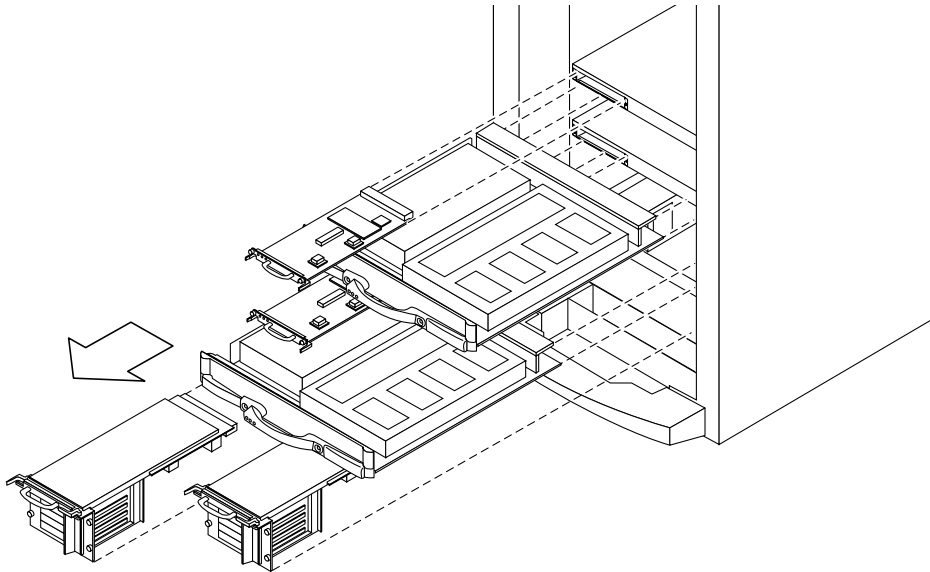

FIGURE 12-27 Removing the Boards—Sun Fire 3800 System
6. At the front of the system, remove the boards and the I/O assemblies. You do not need to remove the board filler panels, but you do need to remove the I/O assembly filler board (FIGURE 12-27).